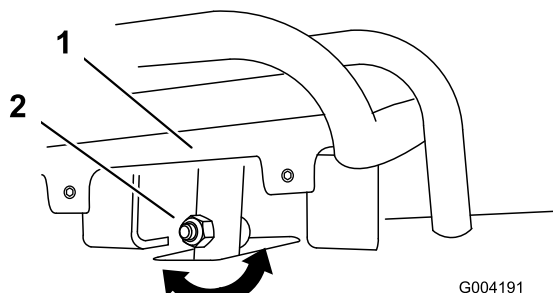
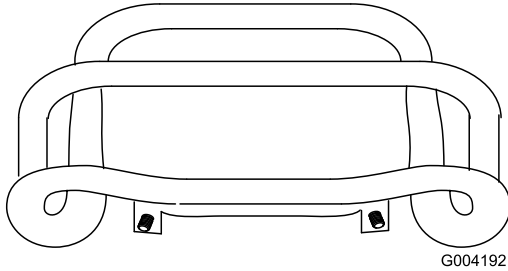

Figure 54
Figure 55
4. If the front of the traction control does not rest square and flush with the reference bar, loosen the flange nut and bolt in the stem of the traction control (Figure 54).
5. Adjust the traction control so that it rests flush against the reference bar when it is pulled straight back (Figure 54 and Figure 55).
- C. Loosen the flange nut and bolt in the stem of the traction control (Figure 54).
- I. Adjust the traction control so that it rests flush against the reference bar when it is pulled straight back (Figure 54 and Figure 55).